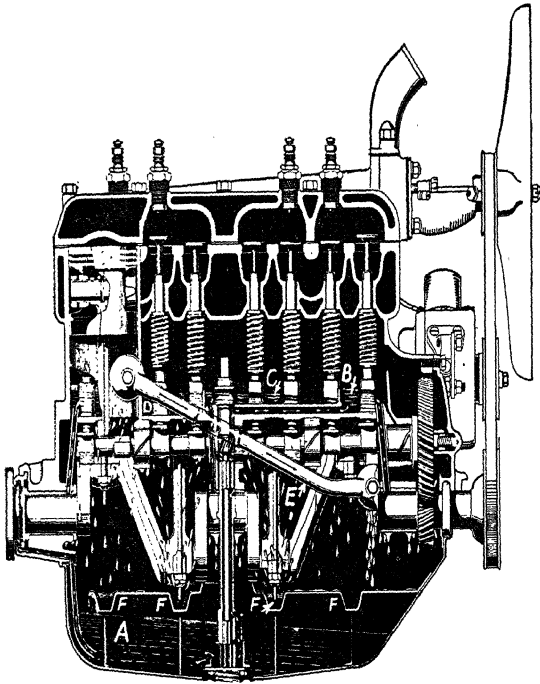

Fig. 16. Ford Model "A" Oiling System Is of Splash-and-Circulating Type
*Splash-and-Circulating Lubrication.* For many years the splash-and-circulating lubrication was one of the most popular forms of automobile engine lubrication. No particular fault has ever been found with it except in cases of high-speed engines. Where extremely high speed is used, some engineers question its ability to perform properly. The principles of this system of lubrication are illustrated in Fig. 16.
Somewhat the same idea has been followed out in the Model "A" engine. It will be noted in Fig. 16 that oil from the oil sump A is lifted by the oil pump gears and forced upward along the central vertical tubes, from which point it flows forward through a small passageway to the oil level marked B.
A small cross rib at the rear of the point *B* serves as the forward oil level in the valve compartment. Oil overflowing this point then passes to the oil level *C*. After overflowing the rib at the rear of the oil level *C*, it fills in a new oil level at the point marked *D*. Reaching a certain level at this point, the surplus oil then flows through the oil tube exposed on the outside of the engine and on forward to the front of the engine, where it is turned back into the upper level of the oil pan. Oil flowing from this point fills the four troughs marked *F*. Oil splashed from the oil troughs serves to lubricate the connecting rods, the pistons, and cylinder walls. Oil flowing from the upper levels *B*, *C*, and *D* passes through drilled openings or tubes to the three main engine bearings, as will be noted from a study of Fig. 16. Oil also flows from these upper levels to the cam-shaft bearings and lubricates them. Surplus oil coming from the rear main bearings is caught by oil slingers and carried through an opening back into the oil sump. Excess oil from the timing gears and front crank-shaft bearings finds its way into the sump also. This system belongs to the splash-and-circulating type. It has no counterpart in any other engine inasmuch as no other engine makes use of the valve compartment as an oil reservoir from which the bearings are fed.